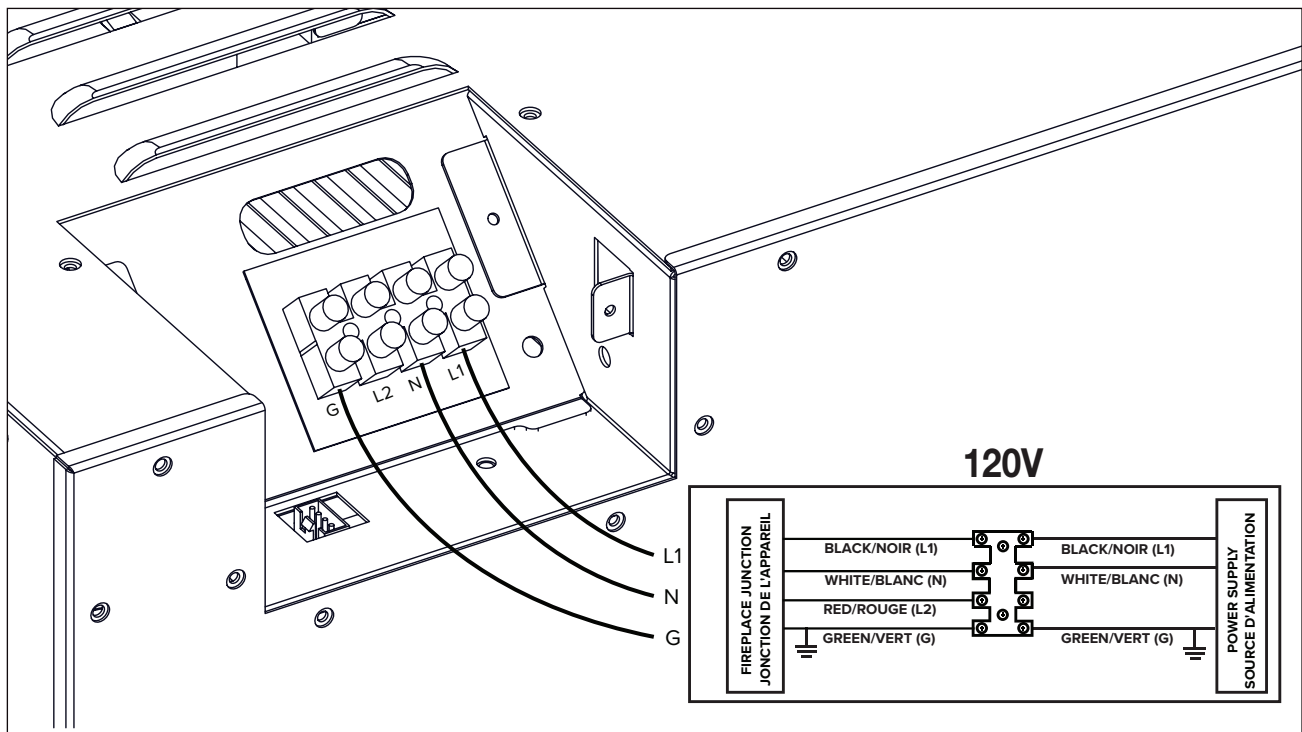

Fig. 9
3. Insert L1 wire to the designated L1 Terminal. Tighten the screw **(Fig. 9)**.